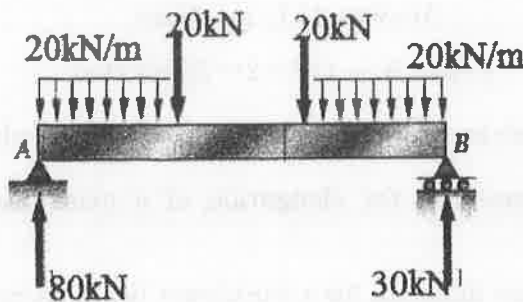

Figure 2
12. (a) Draw the shear force and bending moment diagram of the given beam, as shown in Figure 2.